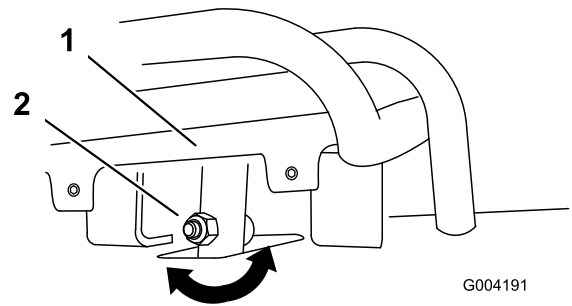
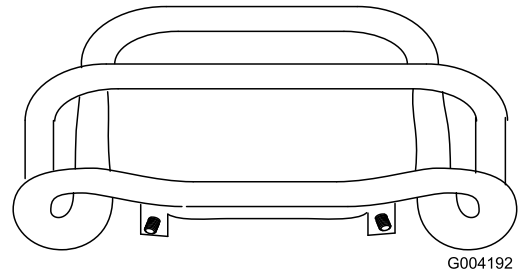

Figure 49
Figure 50
4. If the front of the traction control does not rest square and flush with the reference bar, loosen the nut and bolt in the stem of the traction control (Figure 49).
5. Adjust the traction control so that it rests flush against the reference bar when it is pulled straight back (Figure 49 and Figure 50).
- C. Loosen the flange nut and bolt in the stem of the traction control (Figure 49).
I. Adjust the traction control so that it rests flush against the reference bar when it is pulled straight back (Figure 49 and Figure 50).